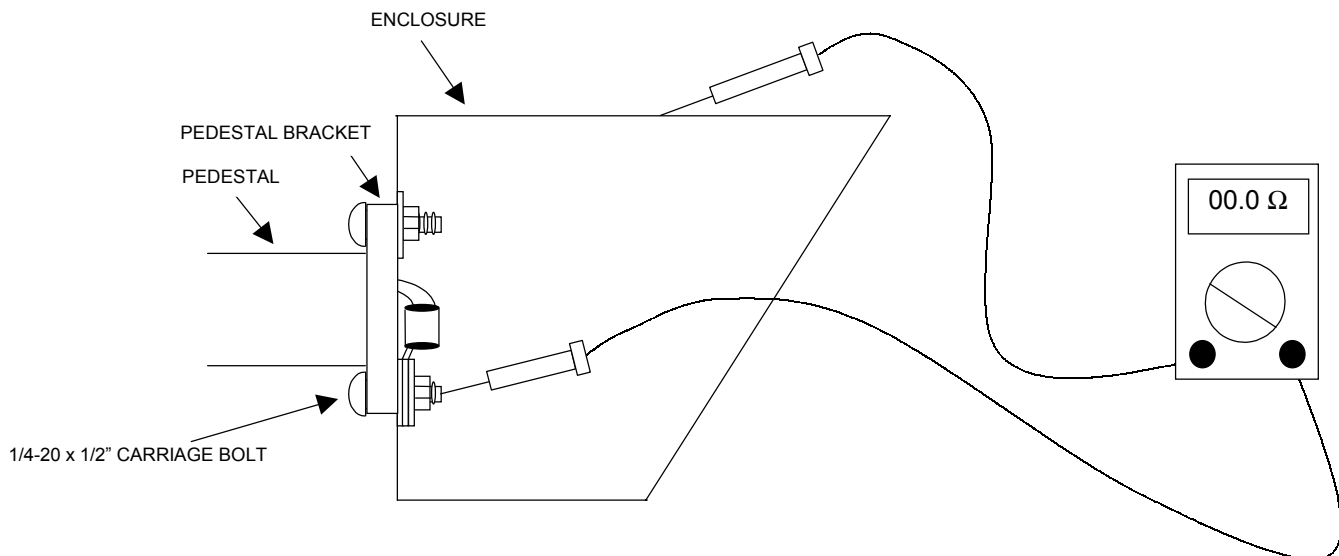
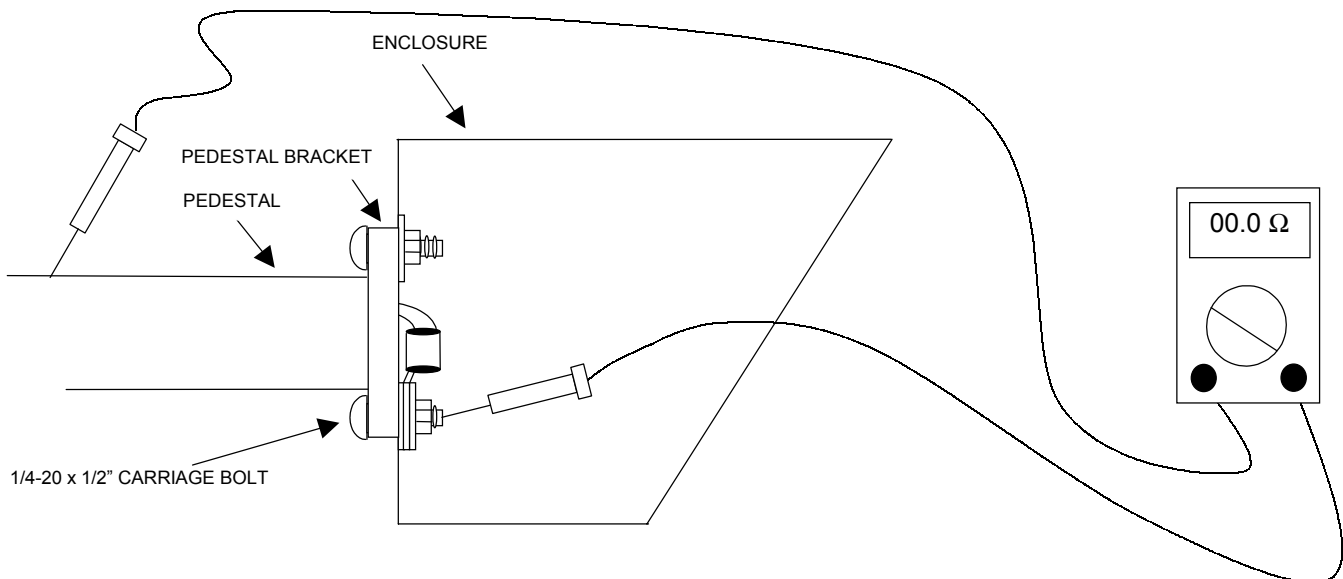
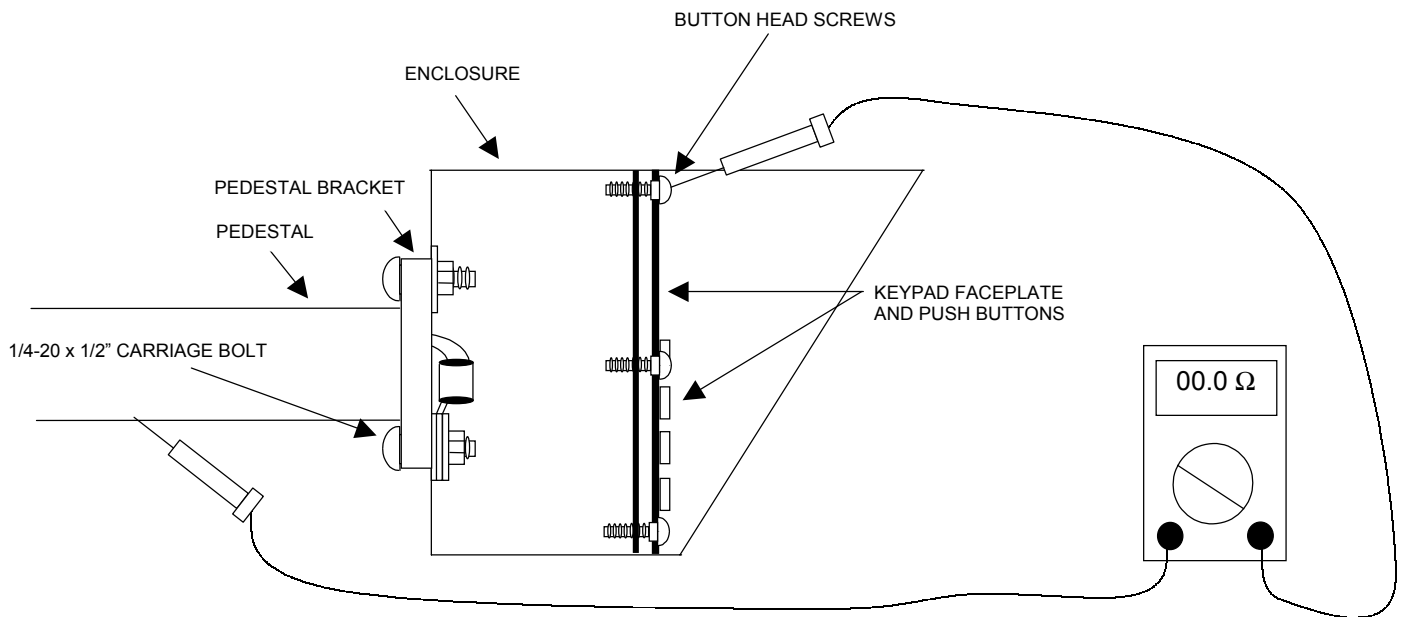

Figure 7: *First continuity check measuring requirement, transparent side view.*
Figure 8: *Second continuity check measuring requirement, transparent side view.*
Figure 9: *Third continuity check measuring requirement, transparent side view.*
Next, place the spade or ring lug (whichever is used) onto the threaded carriage bolt shaft. Finally, secure 1/2" lock washer and bonding wire spade or ring lug tightly with **optional**, flat washer(s), and 1/2" hex nuts. Be sure that no paint, residue, or foreign debris is prohibiting continuity between bonding wire connection, keypad enclosure and pedestal. The 12 gauge, copper, bonding wire should be used to eventually, physically connect and link each and every keypad pedestal. A variety of continuity checks should be performed after each individual pedestal is bonded. These tests should be performed using a DMM set for measuring resistance. In this case, proper bonding will indicate virtually no resistance will exist 1) between the bonding wire and outside of keypad enclosure, 2) between the bonding wire and pedestal and 3) between the actual keypad faceplate and its accompanying pedestal. To measure each of these requirements, **start by disconnecting keypad from enclosure**. Place one lead of the DMM on the carriage bolt used to fasten the bonding wire to the inside of keypad enclosure, and place the other lead anywhere on the outside of enclosure. See Figure 7 above demonstrating this continuity measurement. Be sure that no paint, residue, or foreign debris is prohibiting continuity between the carriage bolt and/or keypad enclosure. A measurement of close to 0 ohms (0Ω) should be observed from the DMM display. Next, leave the DMM lead currently on the carriage bolt as is, and place the other lead anywhere on the outside of the pedestal. See Figure 8 below demonstrating this continuity measurement. Once again, be sure that no paint, residue, or foreign debris is prohibiting continuity between the DMM lead and pedestal surface. A reading of virtually 0 ohms (0Ω) should again be observed from carriage bolt to pedestal. Finally, **with the keypad fastened to keypad enclosure**, place one lead of the DMM on any one of the eight button head screws fastening the keypad faceplate to the keypad enclosure, and place the other DMM lead anywhere on the outside of the accompanying pedestal. Again, a measurement of close to 0 ohms (0) should be observed from the DMM display. Figure 9 below illustrates this continuity test. If an open circuit or a resistance of above 5 ohms (5Ω) is observed during any part of the continuity tests just described, check to ensure that no foreign debris is prohibiting continuity between the DMM leads and the surfaces being tested. **If an unacceptable reading still persists, the source of the discontinuity must be discovered and corrected immediately before any further bonding is continued.** Any discontinuity present within the entire bonding arrangement will defeat the entire purpose of the bonding procedure. After all bonding and continuity tests have been successfully performed on the first and initial pedestal, repeat the entire installation and bonding process for each additional pedestal using the same bonding wire to physically connect the pedestals. Eventually all pedestals should be connected together via the 12 gauge, copper, bonding wire.